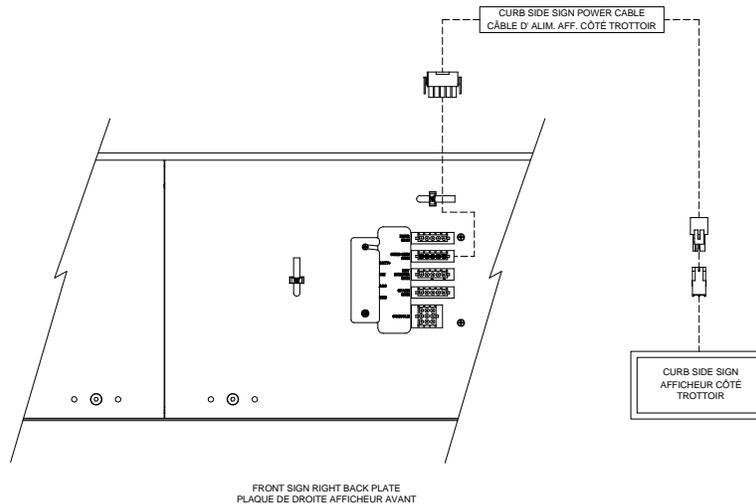

Figure 7: Curb Side Sign Cable Connection
- Connect the power cable (5-pin connector) to the **CURB SIDE SIGN** connector (5-pin connector) located on the Back Plate of the Front Destination Sign. (See Figure 7)